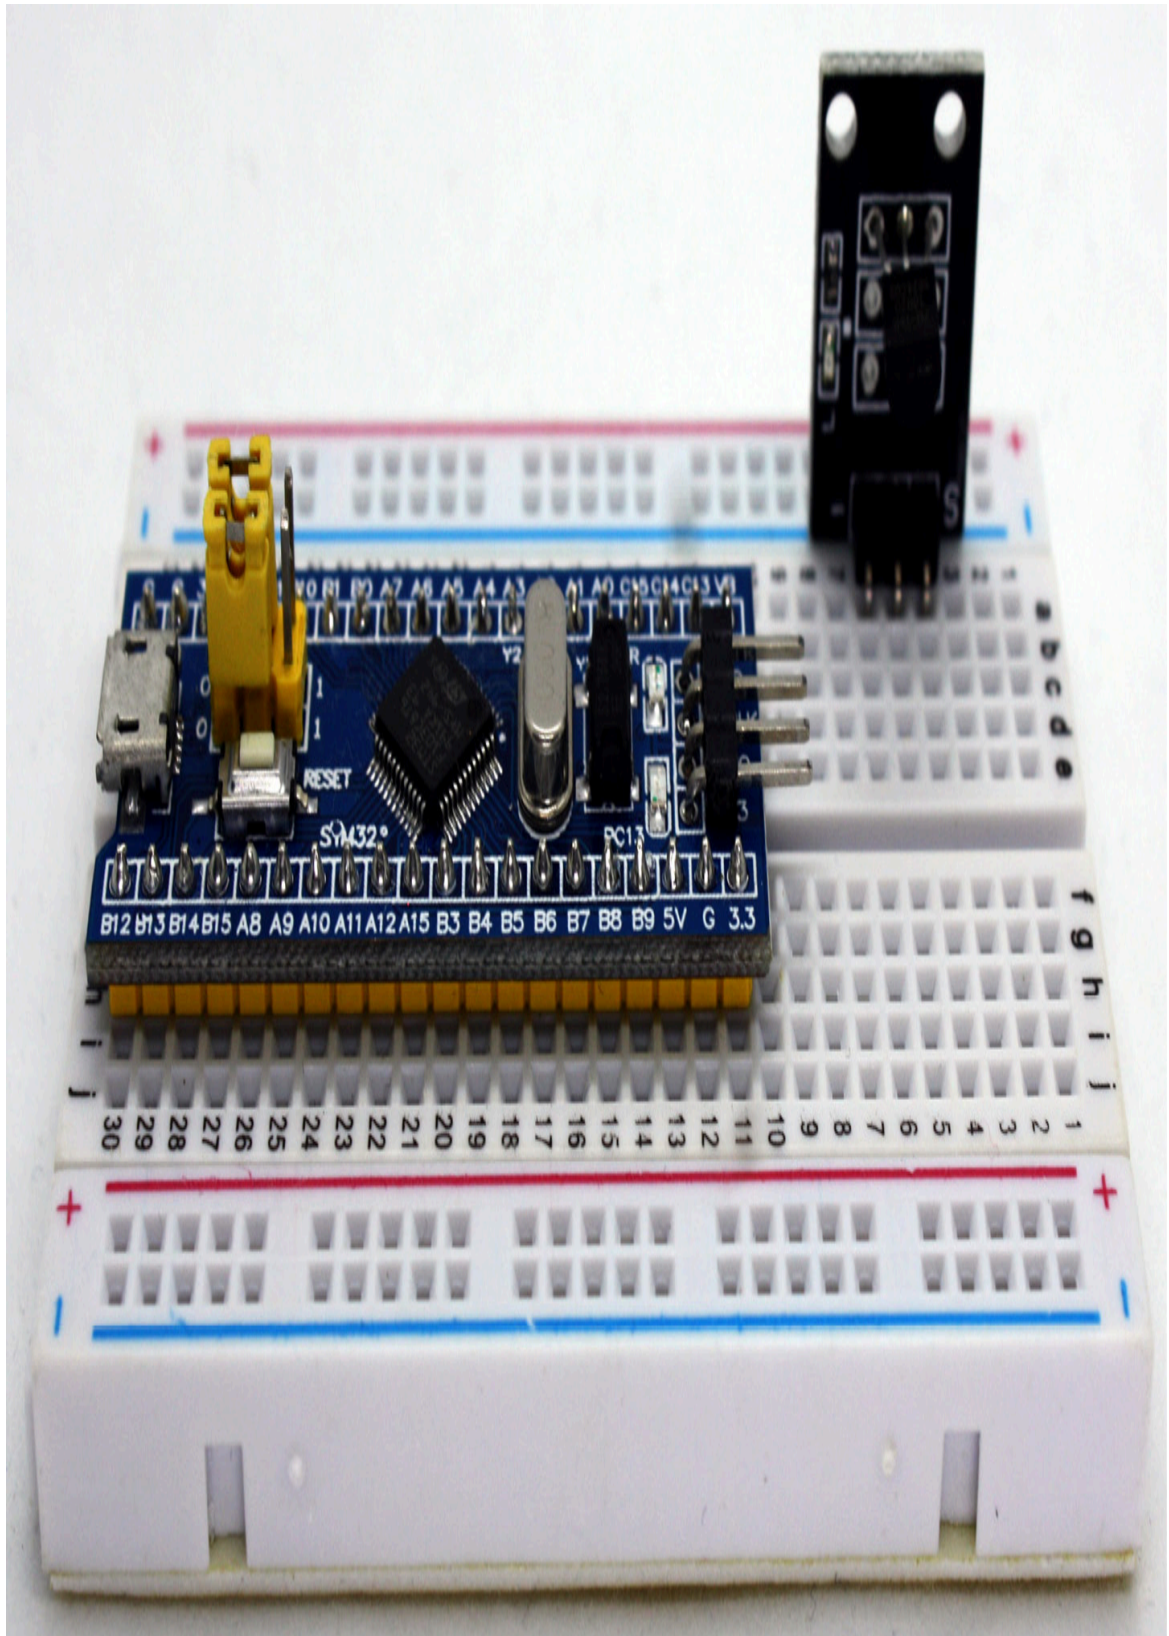

Figure 9.2 – Components on the breadboard
1. Place the temperature sensor and the STM32 Blue Pill on a solderless breadboard with enough space to add the wiring layer, as shown in *Figure 9.2*: